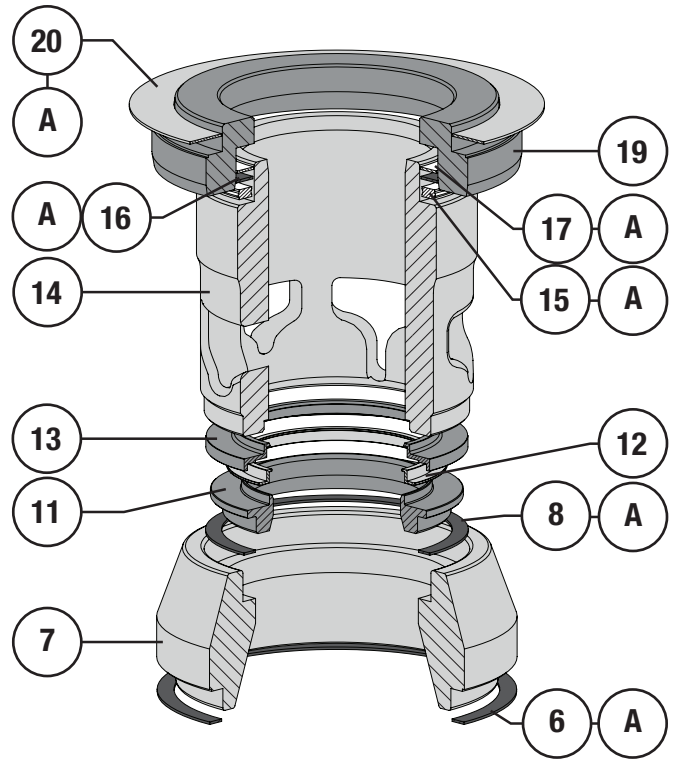

Figure 28 Reduced Soft Seat Trim Diagram
- 2 **For Reduced Port Trim:** Install the seat ring adapter (Key 7) into the valve body (Key 1). Apply Permatex® Nickel Anti-Seize (Key A) to the top of the seat ring adapter and to the top of the second seat ring gasket (Key 6). Install the gasket onto the seat ring adapter, refer to Figures 28 & 30.